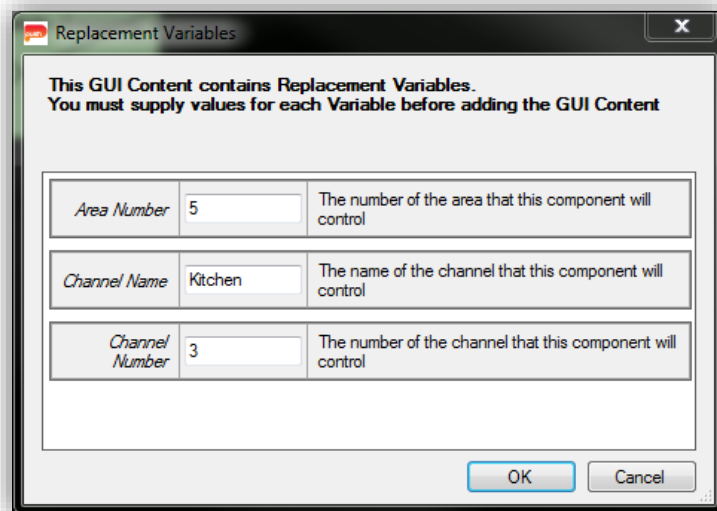

Figure 14 - Dynalite channel component parameters
3. Upon releasing the left mouse button you will be presented with a dialog box (see **Figure 14**). This dialog box requires you to pass in three parameters to program the GUI assets within:
3. Upon releasing the left mouse button you will be presented with a dialog box (see **Figure 14**). This dialog box requires you to pass in two parameters to program the GUI assets within: